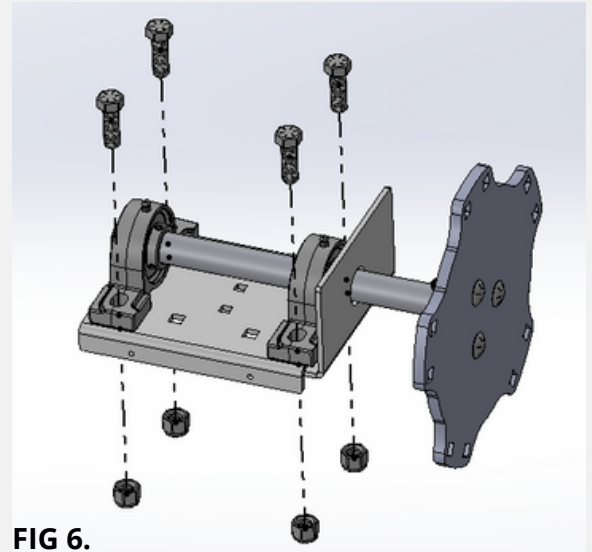

FIG 6.
7. Install 1/2" x 1-1/2" Hex Head Bolts into Bearings and secure with Nylon Nuts. (4pcs). As shown in Fig. 6